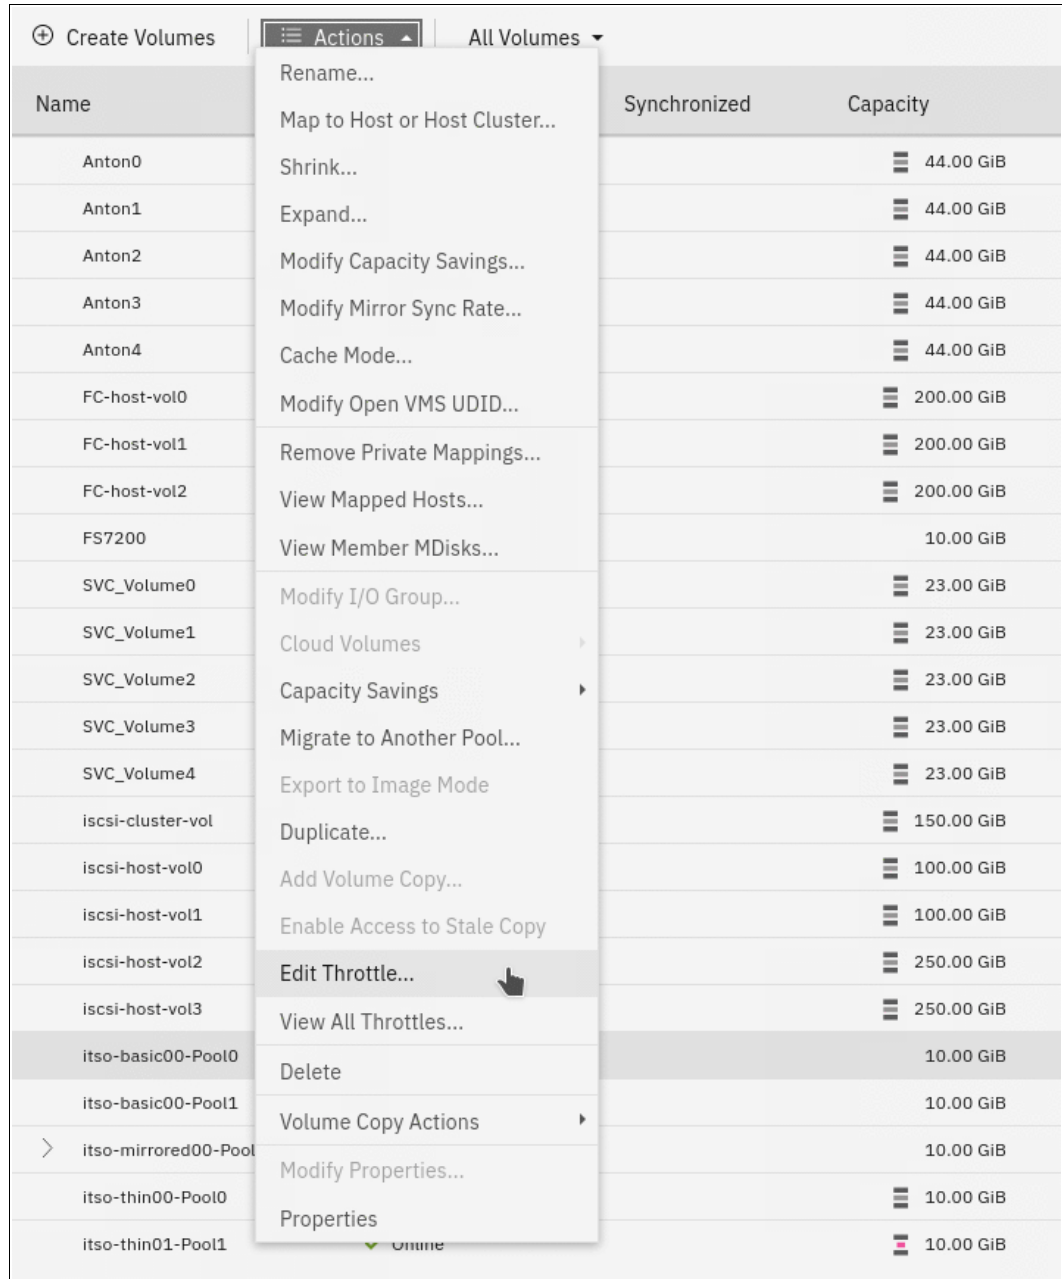

Figure 6-36 Edit Throttle menu
1. From the **Volumes** menu, select the volume that is attached the throttle that you want to remove. Select **Actions** → **Edit Throttle**, as shown in Figure 6-36.